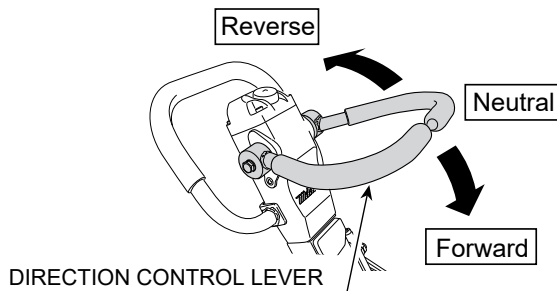

Figure 17. Direction Control Lever
3. The direction control lever allows the machine to be moved either backward or forward (Figure 17). When the direction control lever is pushed forward, the machine moves forward. When pulled backward, the machine moves backward.